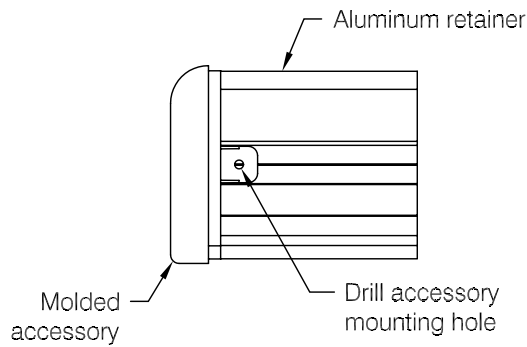

fig 3
- Drywall Installation:** Using the accessory as a template pre-drill clearance holes for mounting through to metal backer or stud or pre-drill pilot holes using #29 (.136") bit for #8 fastener or a #21 bit (.159") for #10 fastener for attaching accessories directly to aluminum, see fig 3 .
- Masonry Installation:** Using the accessory as a template pre-drill clearance holes at mounting locations, see fig 3 .